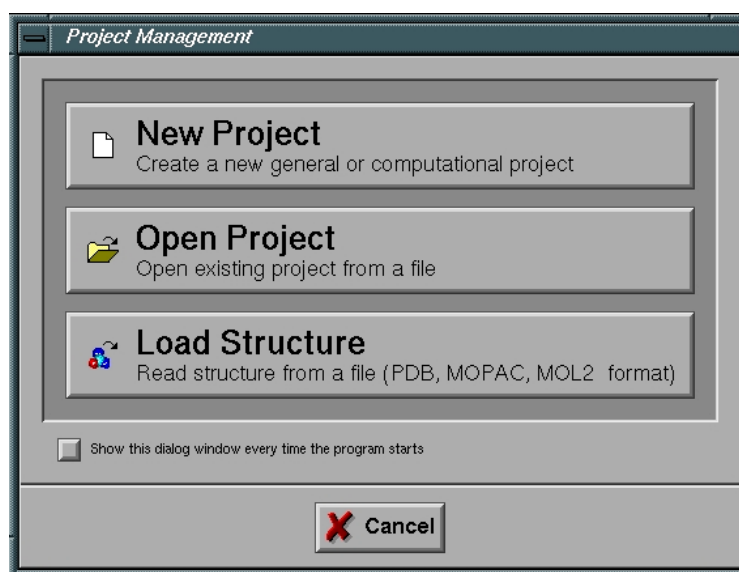

Fig 14.2 Window for project management
- 2) Select the *New Project* button to create a new project (**Fig 14.2**).